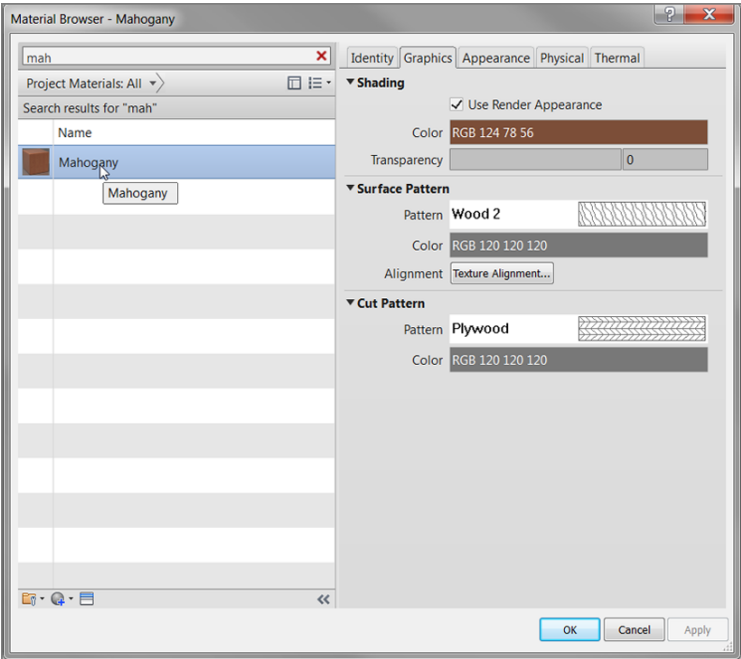

FIGURE 9.28: Adding a new material to the project
- 9. In the Material Browser, type mahogany in the search box, as shown in Figure 9.28.